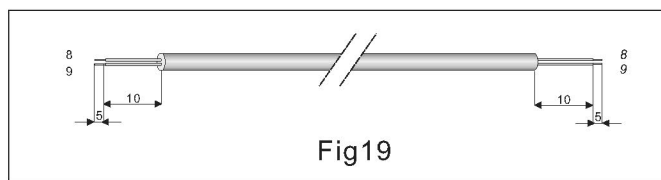

Fig.19
5. Prepare the twin wire cable end for connection as shown in fig.19.
6. Disconnect the resistor (5) from the indoor unit twin wire cable (3) and connect the twin wire cable (6) connector instead.
7. connect the other end of the twin wire cable (6) to the outdoor unit twin wire terminal (9).